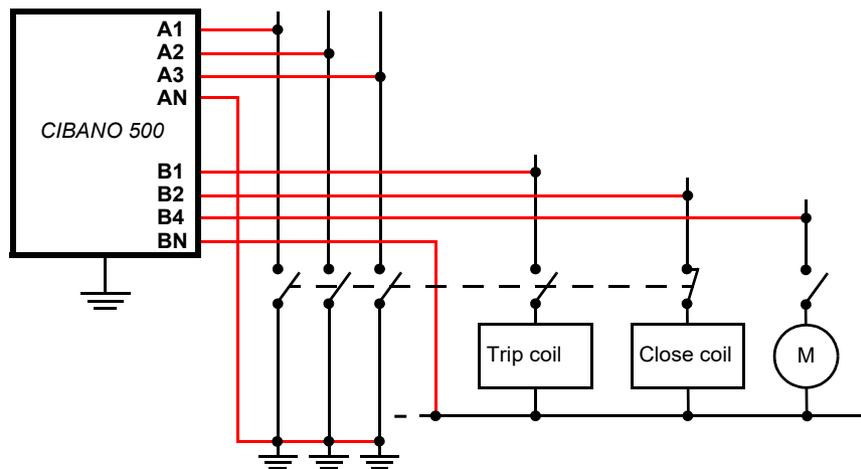

Figure 17-7: Connecting CIBANO 500 to the circuit breaker for the Timing test
- ▶ Connect CIBANO 500 to the circuit breaker as shown in Figure 17-7: "Connecting CIBANO 500 to the circuit breaker for the Timing test".